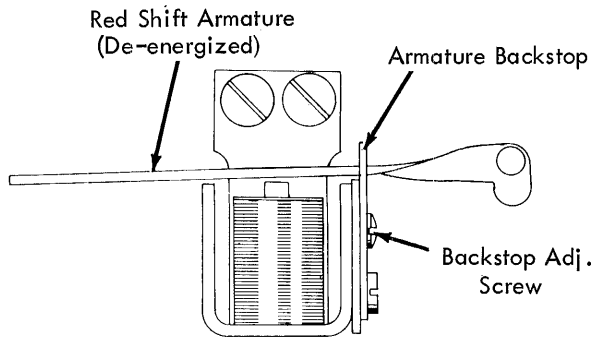

FIGURE 277. Red Shift Armature Backstop
6. Red Shift Armature Backstop (Fig. 277 & 278) - With the armature de-energized, position the red shift armature backstop to obtain .002" to .005" clearance between the stud and the follower latch slot.